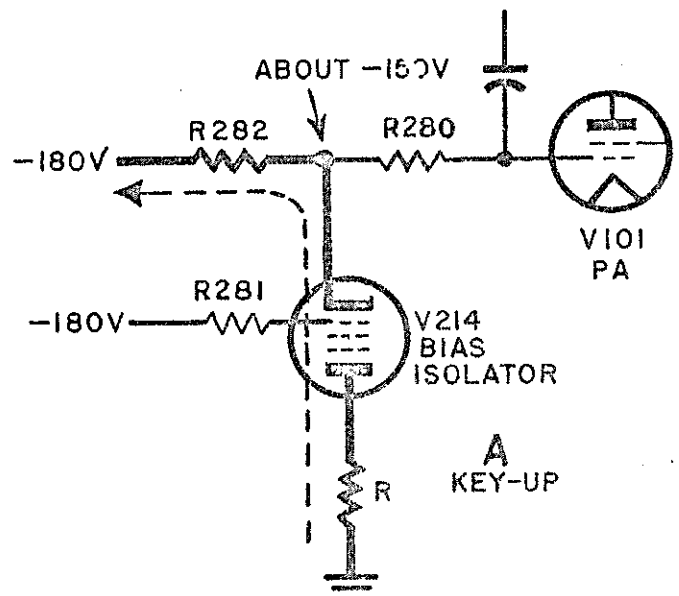

Fig. 2-13A Bias Isolator, Basic Circuit, Key-up
(1) The power amplifier tubes operate under class C conditions, with cut-off bias preventing plate current flow during most of the r-f cycle. Near the crest of the r-f input wave, the power amplifier control grid is driven positive and grid current flows. It is the function of the bias isolator to provide a path for the d-c component of grid current during key-down periods (grid leak bias) while maintaining the minimum fixed bias to cut off the power amplifier tubes in the absence of r-f drive (key-up periods). The operation of the bias isolator is easily understood from Figs. 2-13A and 2-13B.